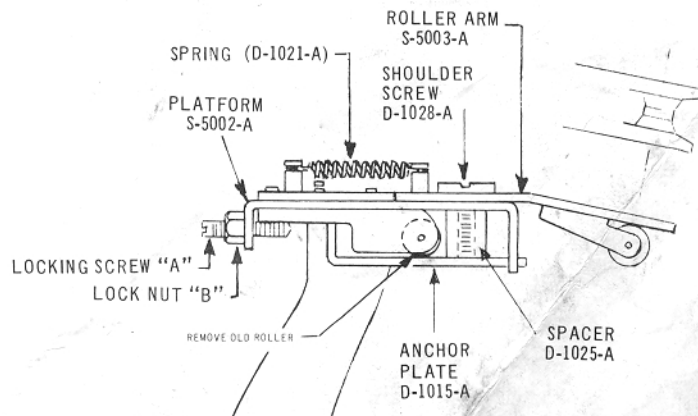

FIGURE 8. TRANSFER ARM HEAD ASSEMBLY A-8005-A
9. INSTALLATION OF NEW TRANSFER ARM HEAD ASSEMBLY A-8005-A (See Fig. 8. and 9.
- B. Slip the new "Platform S-5002-A" down over the four existing register pins (Fig. 8). NOTE: If your transfer arm does not have a roller - remove the arm and exchange it for a later model with roller from Seeburg distributor. Remove roller from new transfer arm and install it.
- C. Lay new "Roller Arm S-5003-A" on the "platform" and position as shown (Fig. 8). Also, position as shown the new "Anchor Plate D-1015-A".
E. Screw in the new Locking "Screw A" until the "Platform" is firmly held down. Then tighten lock nut "B" (Fig. 8).
(Figs. 8 and 9):